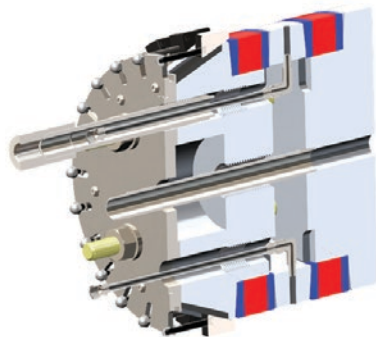

Figure 13: Inserting and Threading *Lifting Standoffs* into the DBB 10” - 12” Plug
- Remove the *MJIC-FNPT Adapter*(1) from the *Vent Hose*(2). The internal thread for the lifting device on 10”-12” plugs are located in the holes where the *Vent Hoses*(2) originate.
- Insert the *Vent Hose*(2) into the hole of the *Lifting Standoff* (23) (see **Figure 13**).
- Insert the *Lifting Standoffs*(23) into the two holes located on top of the *Spring Plate Hub*(20). Hand tighten both *Lifting Standoffs*(23) until they bottom out (see **Figure 13**).